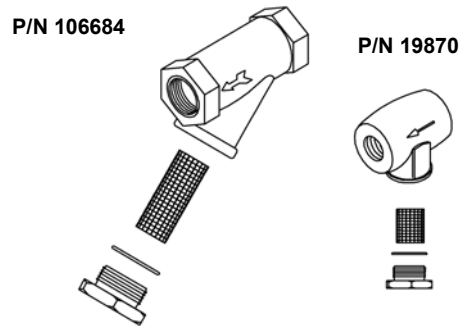

Figure 2-12 Water Strainer Assembly
- f) A 40 or 50-mesh water strainer (dirt filter) of one of the types and construction illustrated in Figure 2-12, Cleveland Range part number 106684 or 19870 is supplied with the unit and should be installed where indicated in the plumbing layout. **Note:** On some Models the strainer has already been installed as part of the internal water piping.